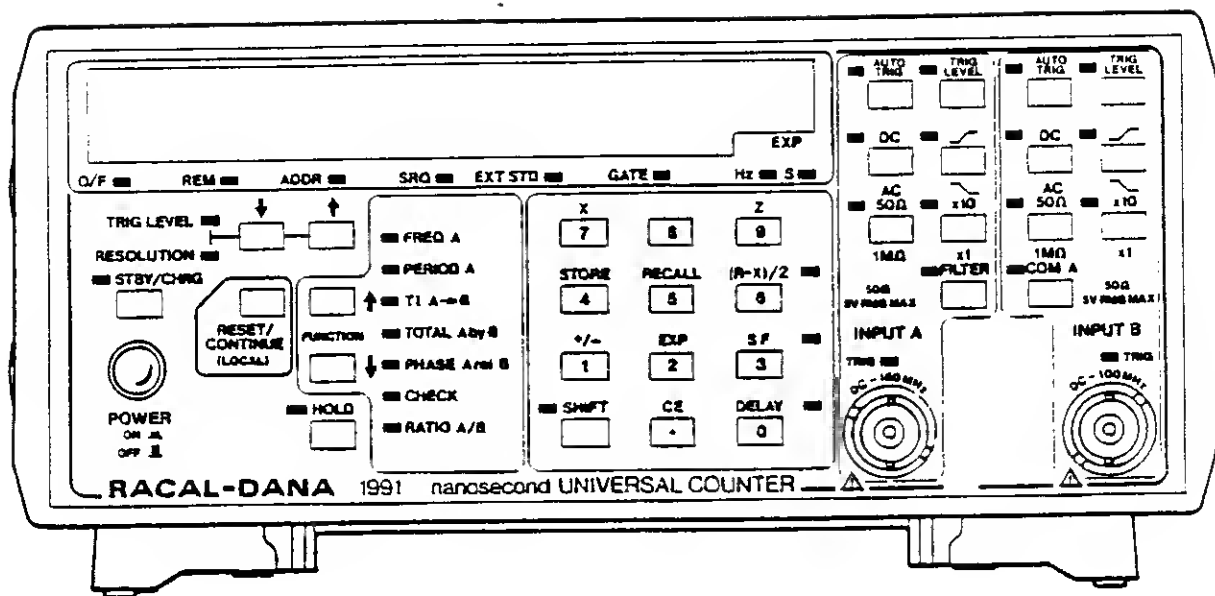

Figure 1.1 - Model 1991 Universal Timer/Counter
**1.1.1** This Instruction Manual provides information for installing, operating, and servicing of Racal-Dana's 1991 and 1992 Universal Timer Counters. Figures 1.1 and 1.2 are front views of the 1991 and 1992. The 1991 offers universal counter functions using Inputs A and B. The 1992 also provides frequency measurements to 1.3 GHz using Input C.